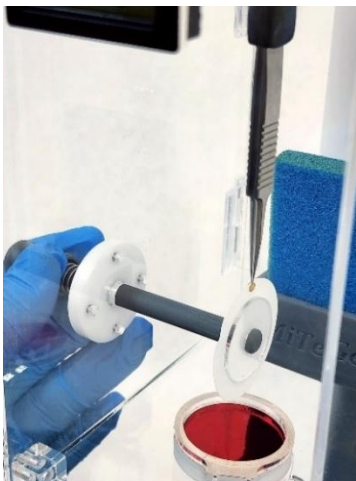

Figure 11: Removal of excess sample using blotting rod assembly
STEP 9. **Basic Model:** Using filter paper, gently blot excess solution from the grid. **Standard model:** Use the blotting rod assembly to remove excess liquid from the grid as shown in Figure 11. While the return spring should automatically retract the blotting rod, be sure the **blotting rod is fully retracted prior to plunging your sample**. Failure to do so can result in damage to the blotting rod, the grid, the tweezers, and/or other instrument components. **Note:** Both units are designed for free rotation of the drop rod without change in drop rod height in order to accommodate both front side and back side blotting. For the former, rotate the drop rod 180° between sample application and blotting. For the latter, do nothing after sample application.